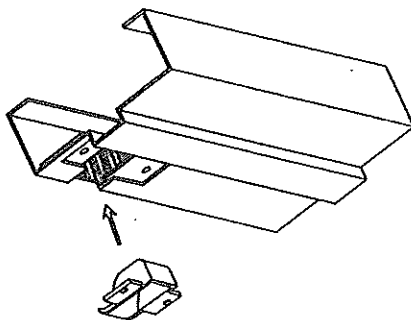

Figure 8-3
2. Install the Top Strike on the strike site (see Figure 8-3), and fasten with supplied screws (see Figure 8-4).